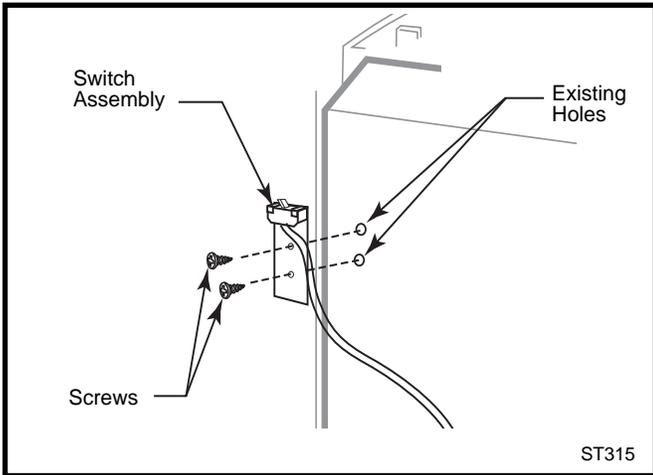

Fig. 47 Attach switch assembly to rear shroud.
1. Attach switch assembly to left rear side of stove shroud using two screws and existing holes in shroud. (Fig. 47)